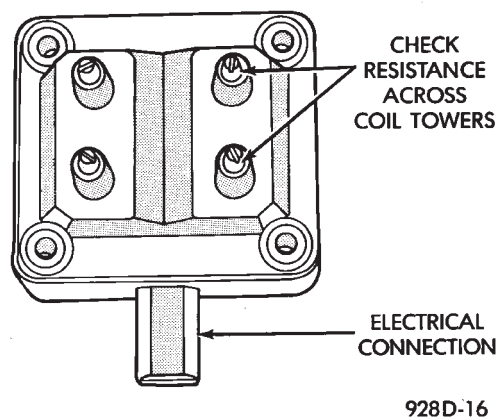

Fig. 4 Checking Ignition Coil Secondary Resistance—Turbo III Engines
(4) Remove ignition cables from the secondary towers of the coil. Measure the secondary resistance of the coil between the towers of each individual coil (Fig. 4). Secondary resistance should be 11,600 to 15,800 ohms. Replace the coil if resistance is not within tolerance.